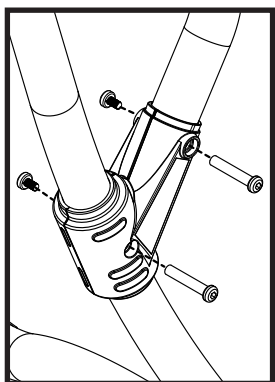

Figure 10
Figure 10: Align (2) Handle Bracket Bolts through the Bolt holes in the Handle Bracket Set and loosely secure the (2) Handle Bracket Screws into the Bolts using (2) 5mm Allen Wrenches.